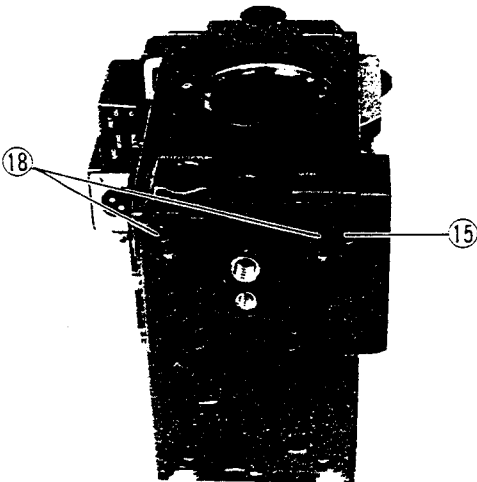

Fig. 2-18
- (1) Remove top two screws ⑰ and two screws ⑱ (shown in Fig. 2-18) as the front panel is fixed on the optical block.